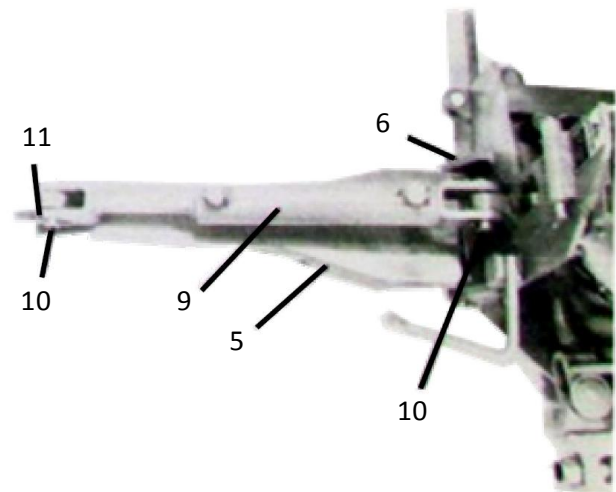
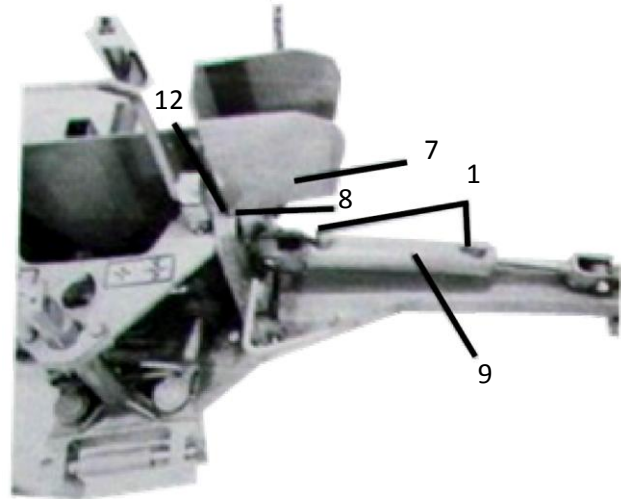

Fig. 5
Fig. 6
(5) Attach the left stabilizer arm (Item 5) between the stabilizer mounting lugs, located on the left side of the mainframe near lower edge, securing the arm to the mainframe with one (1) each stabilizer pin (Item 6) and two (2) each 3/16" x 1 1/2" cotter pins as shown in Fig. 5.
(6) Repeat step 5 for the right side stabilizer arm.
(7) Attach base end of one (1) each stabilizer cylinder (Item 9) to left side of main frame cylinder anchor lug, located in the center and just above the base end of the stabilizer arm, using one each cylinder pin (Item 10) and two each 3/16" x 1 1/2" cotter pins (Item 11) as shown in Fig. 5.
(8) Attach the rod end of the stabilizer cylinder to the anchor lug, located in the center of the stabilizer arm near the stabilizer foot, using one each cylinder pin (Item 10) and two each 3/16" x 1 1/2" cotter pins (Item 11) as shown in Fig. 5.
(9) Attach the right side stabilizer cylinder by repeating steps 7 and 8.
(10) Attach the right stabilizer guard (Item 7) over the mounting receptacle, located on the upper portion of the main frame side plate, aligning the two holes in the stabilizer guard with the mounting receptacle and inserting the guard pin (Item 8) through the guard and receptacle. Secure the pin with two each 1/8" x 1" cotter pins (Item 12) as shown in Fig. 6.
(11) Attach the left stabilizer guard by repeating step 11.
(12) Install one each of the SAE 6 O-Ring to JIC 6 Flare Straight adaptor fittings (Item 1 in box parts list, page 5) in both ports of the right and left stabilizer cylinders (four (4) required) as shown in Fig. 6.